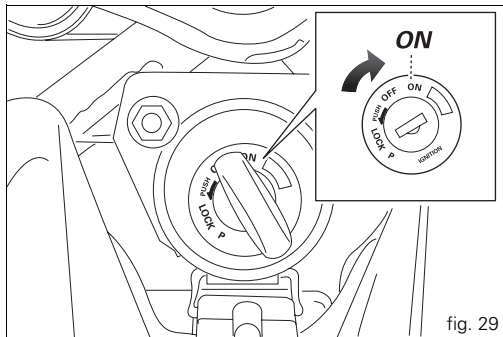

fig. 29
1) Turn the ignition key to **ON** (fig. 29). Check that both the green light **N** and the red light  on the instrument panel come on.